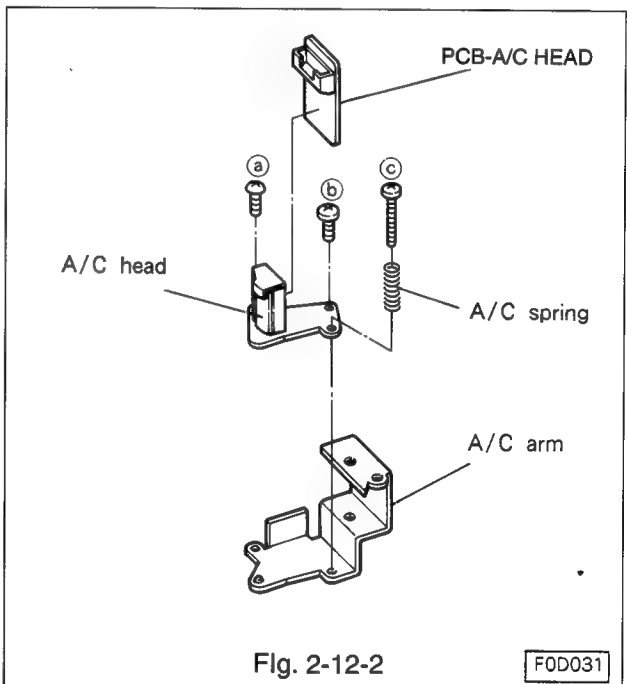

Fig. 2-12-2
- Remove three A/C head fastening screws(㉑ ~ ㉓) and the A/C spring shown in Fig. 2-12-2, and remove the A/C head from the A/C arm.
- Unsolder the PCB-A/C HEAD from the A/C head.(Refer to Fig. 2-12-2.)
(Refer to Fig. 2-12-2.)